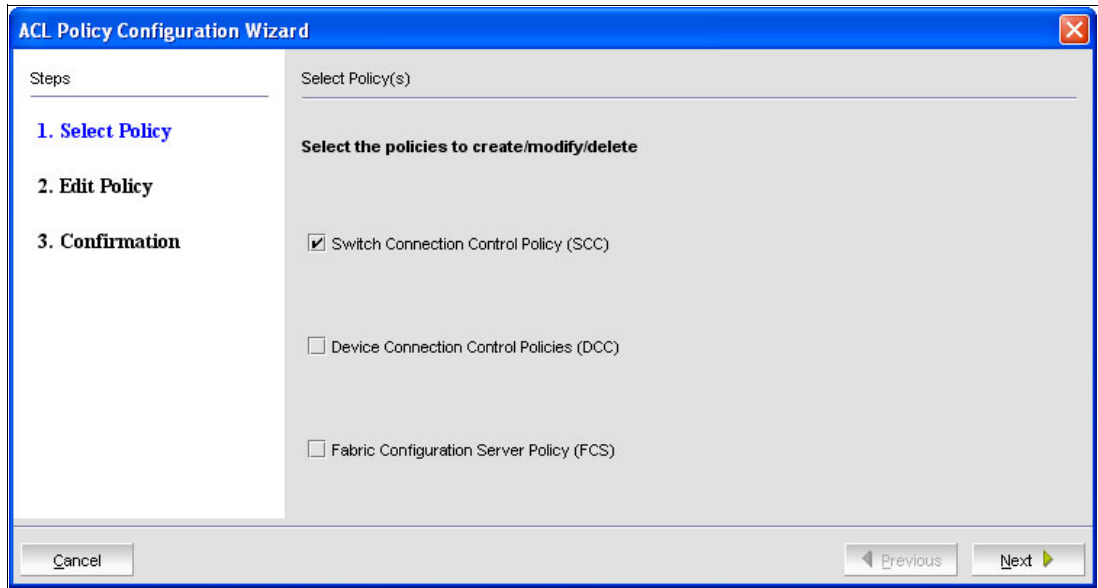

Figure 8-64 SCC edit policy
8. Click **Edit** to set up the SCC Policy, as shown in Figure 8-64 on page 306.